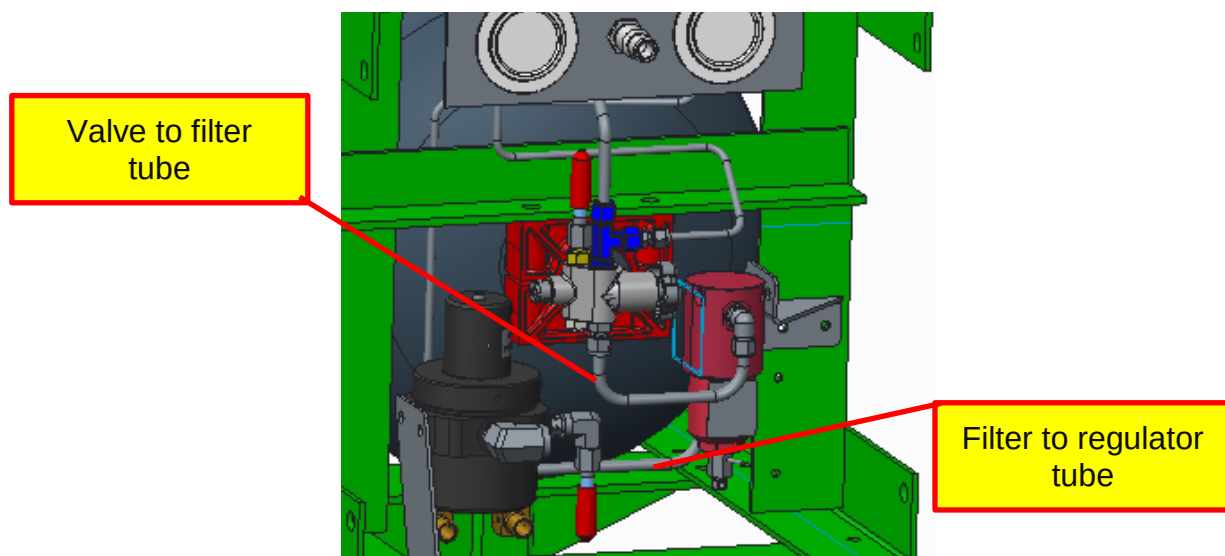

Figure 13. Install the high pressure lines as shown.
14. Next, install the U-shaped valve to filter tube 24409400 and the roughly J-shaped filter to regulator tube 24409401 as shown in Figure 13.